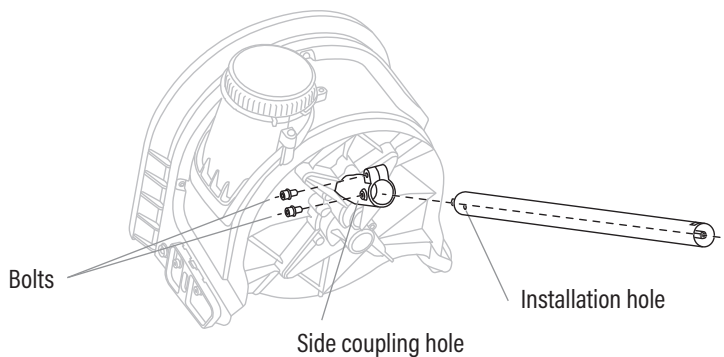

Fig. 4
2. Align the round hole on the attachment shaft with the side coupling hole on the snow shovel attachment. (Fig. 4)